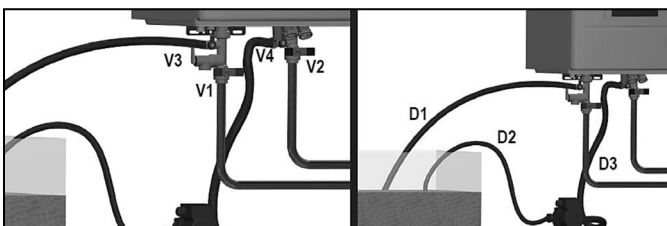

Figure 68 - Flushing the Water Heater
2. Close the shutoff valves on both hot water outlet and cold water inlet lines (V1 and V2). See Figure 68.
3. Connect one hose (D1, Figure 68) to the valve (V3) and place the free end in a bucket. Connect one of the hoses (D3) to the circulation pump outlet and the cold water inlet line to valve V4. Connect the other hose (D2) to the circulation pump inlet and place the free end in the bucket.